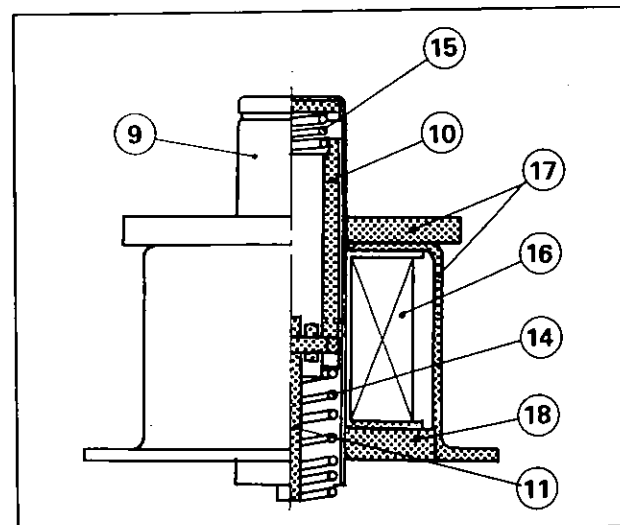

Fig. EF-6 Solenoid relay
The solenoid relay is constructed as illustrated in Figure EF-6. Inside the brass cylinder ⑨ the hollow iron plunger ⑩ which at its lower part is connected to a piston ⑪ by means of a connecting rod ⑫ can freely slide and is attached so that it is pushed up between a damper spring ⑬ above and a plunger spring ⑭ below mounted on the frame ⑮. Encircling this cylinder ⑨ a driving coil ⑯ is mounted concentrically and the coil ⑯ is surrounded by a leakage type solenoid relay covered by iron yokes ⑰ and an end yoke ⑱.